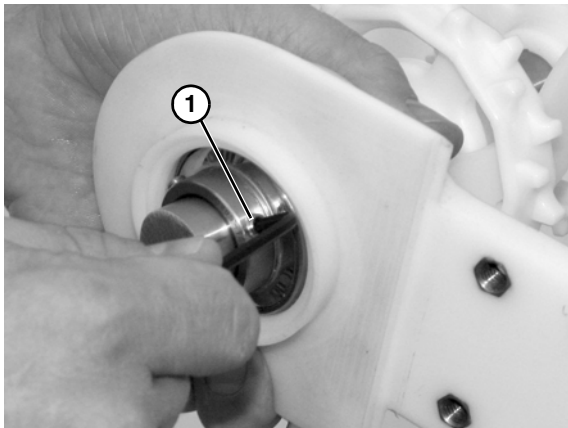

Figure 38
6. Loosen set screws (Figure 38, item 1).